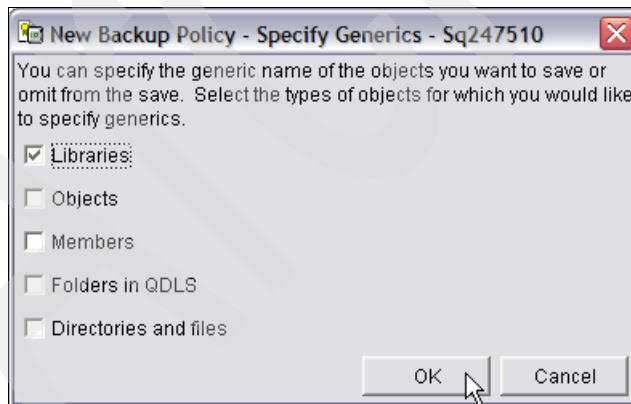

Figure 6-51 New Backup Policy - Specify Generics
9. The window shown in Figure 6-51 opens. Because we are simply going to back up a list of library names with the same beginning name, we select **Libraries** and click **OK**.